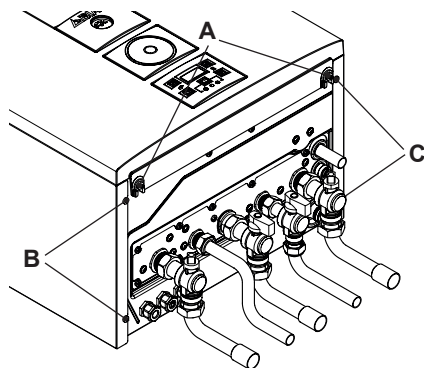
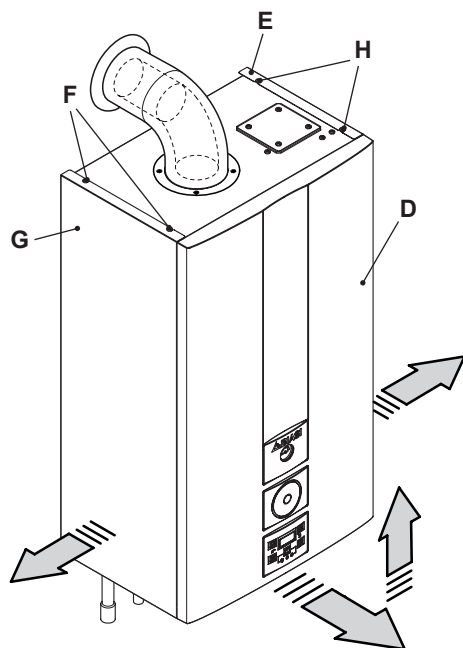

Fig. 10.1
Fig. 10.2
- Unscrew screws "A" and remove the front panel "D" by pulling it and pushing it towards the top so that it is freed from the top housings (Fig. 10.1 and Fig. 10.2).
Loosen screws "B - F" and "C - H" in Fig. 10.1 and remove the two side panels "E" and "G" by pulling towards the outside.
- Lock in place the panel "D" with the appropriate screws "A" (Fig. 10.1).